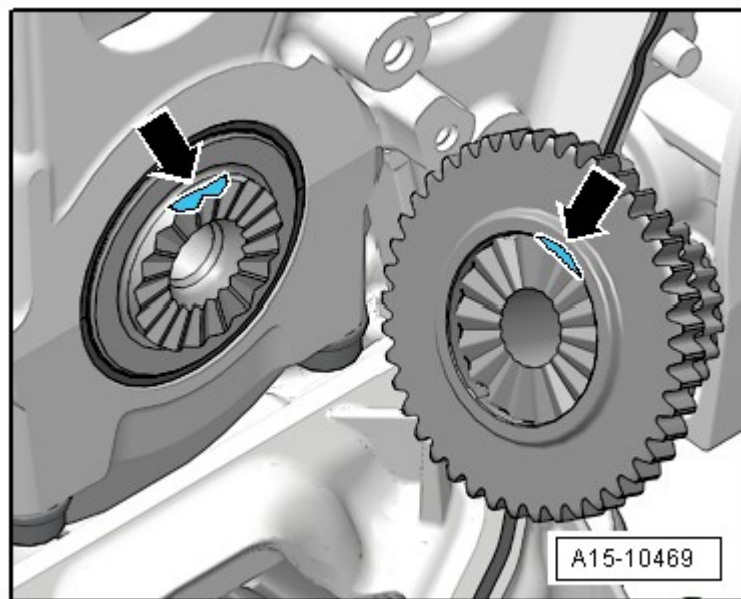

Fig. 8: Chain Sprocket Crankshaft, Installation Position
- Installed location, refer to **Fig. 8**
- Installed location, refer to **Fig. 8.**